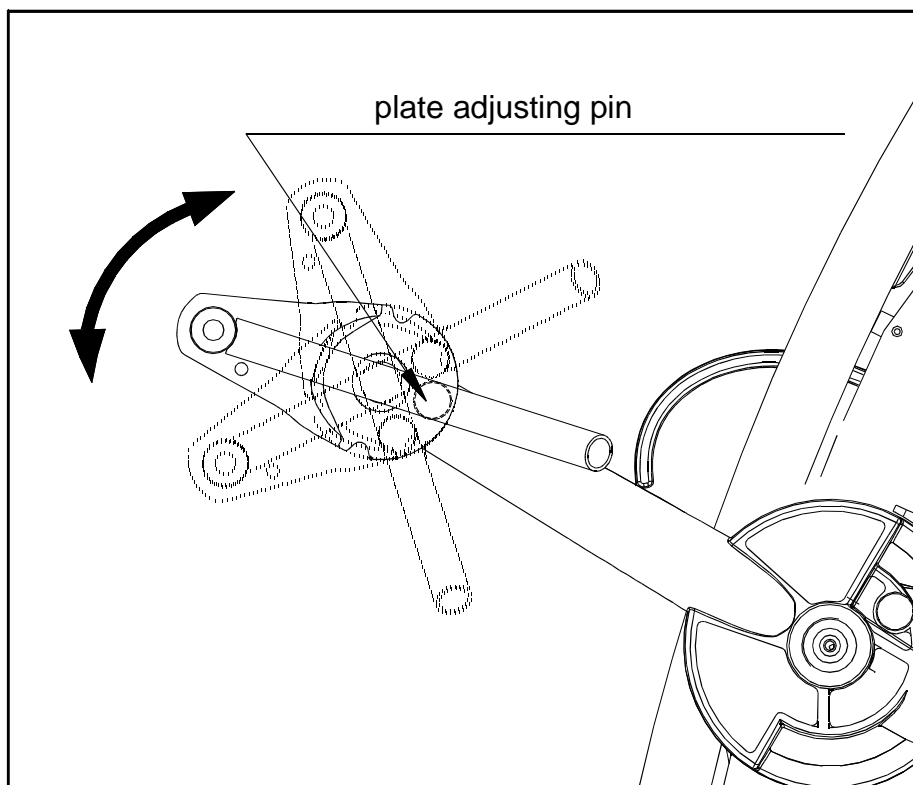

Fig.2
2. Use the plate adjustment pin to set the plate to the proper position, as shown in Fig.2.